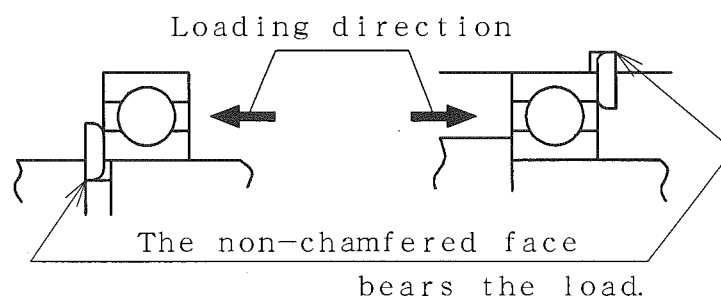

Fig. 8
- 1) Always replace Conical spring washer (36) and Button head cap screw (64) with new one.
- 2) Assembling direction for Retaining ring (See Fig. 8.)